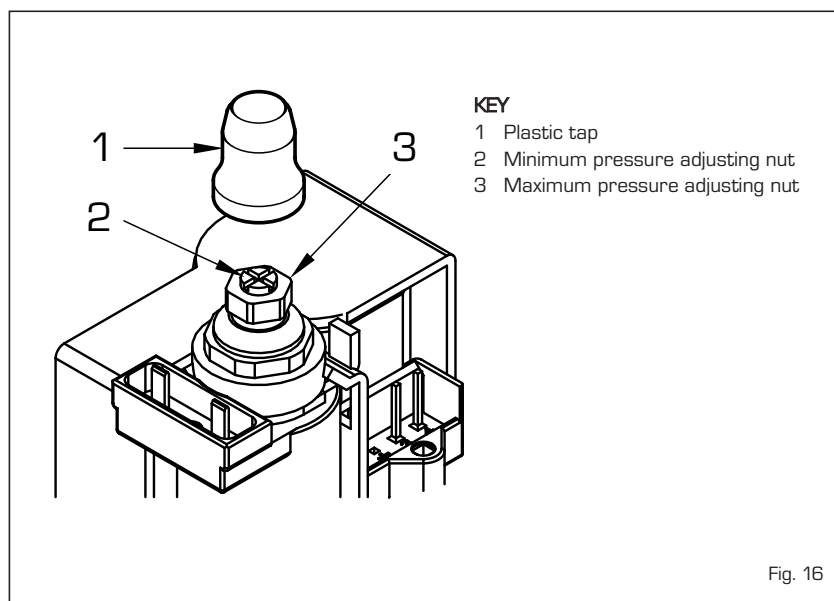

Fig. 16
4.2.2 Adjusting the gas valve pressure (fig. 16)
Set maximum and minimum pressure on gas valves as follows (fig. 16):